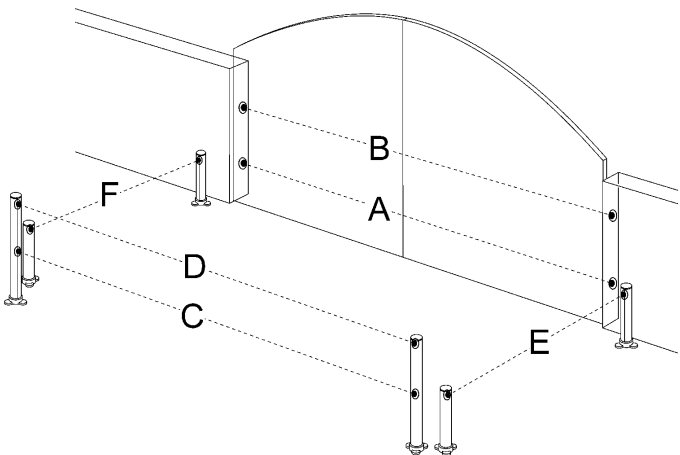
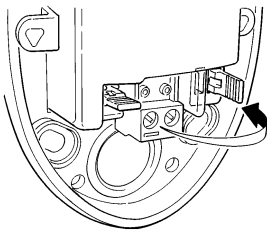

Figure 64
Figure 65
Additional photocells can be installed at any time on top of those supplied with WG20. In an automation system for 2-leaf gates these can be arranged as shown in Figure 64.
- 2 Identify the position where they are installed based on figure 64 and connect with jumper according to Table 11. The unused jumpers must be stored in their proper compartment for future use (Figure 65).